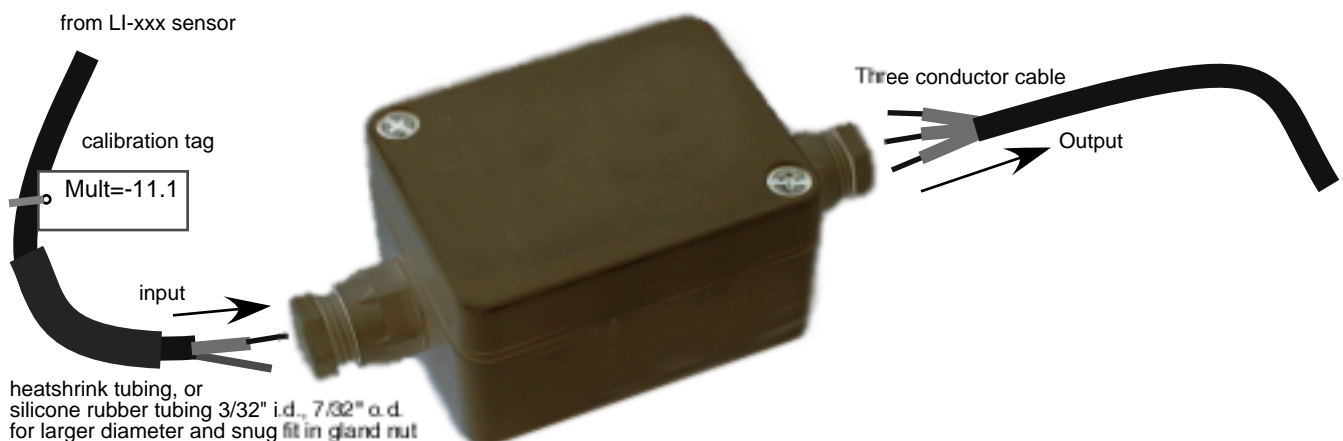

Figure 1: UTA switch and connections diagram
2) Refer to figure 1. The UTA has connections for the LI-COR sensor input at one end of the circuit board and for the power supply and signal output at the other end.